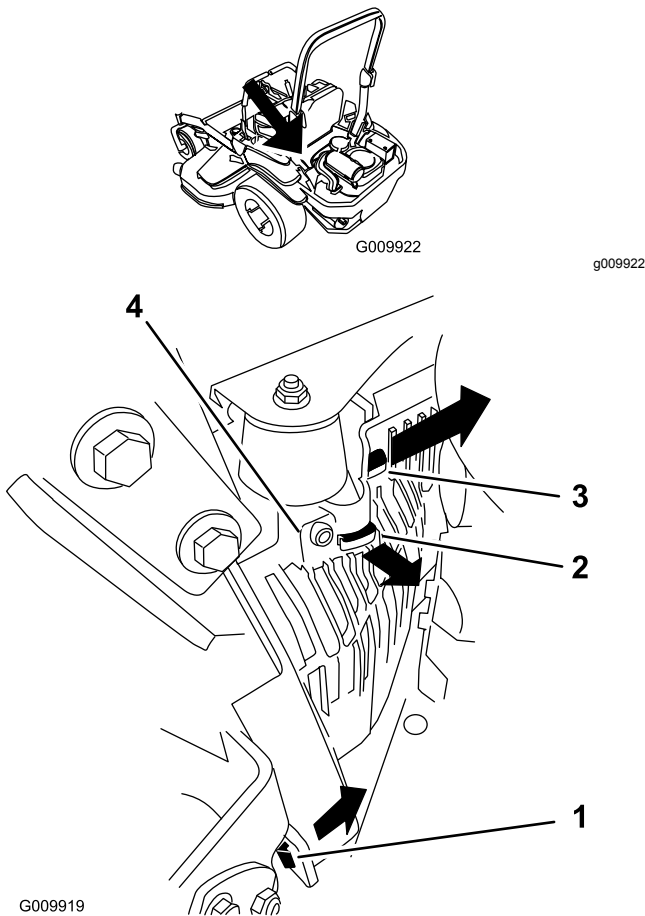

Figure 61
3. Remove the left hydraulic-unit shroud in the order listed with Figure 61. This gives you access to the front spark plug.
5. Install the left hydraulic-unit shroud (Figure 61).